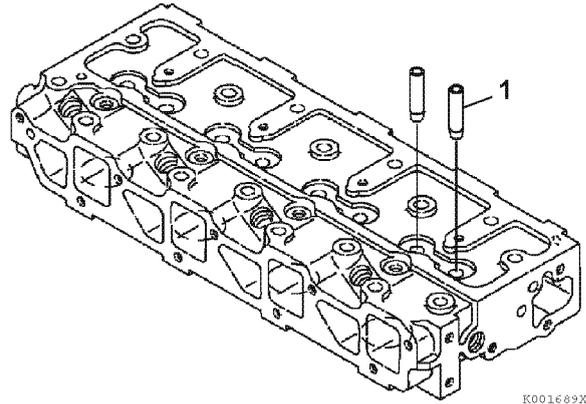

Figure 6-16
1. If the valve guides were not within specifications, use a drift pin and hammer to drive the valve guides (1, **Figure 6-16**) out of the cylinder head.